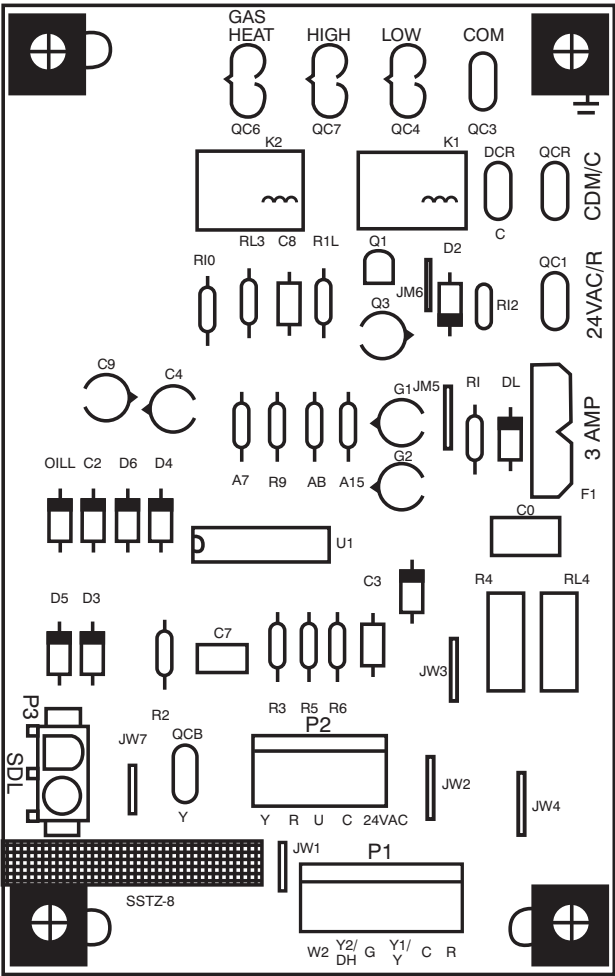

Fig. 18 - Interface Fan Board (IFB)
This unit is factory-set for use with a single cooling fan speed. For single phase models, the cooling speed is marked "COOL" on the IGC (See Fig. 17). For 3-phase models, the cooling speed is marked "LOW" on the interface board (IFB)(See Fig. 18). The factory-shipped settings are noted in Tables 10 and 11. There are up to 3 additional speed tap wires available for use in either gas heating mode, cooling mode, or continuous fan mode (For color coding on the indoor fan motor leads, see Table 8). For single phase models, one of the additional speed tap wires is connected to the continuous fan, with the other 2 wires shipped loose in the control box near the IGC. For three phase models, the additional 3 speed tap wires are shipped loose with vinyl caps and are located in the control box near the interface fan board (IFB) (See Fig. 18).
2. Remove the current speed tap wire from the “GAS HEAT” terminal on the interface fan board (IFB) (Fig.18) and place vinyl cap over the connector on the wire.
2. Remove the current speed tap wire from the “LOW” terminal on the interface fan board (IFB) (See Fig. 18) and place vinyl cap over the connector on the wire.
1. Remove fan speed tap wire from the “LOW” terminal on the interface fan board (IFB) (See Fig. 18).
When the DEHUM feature is not used, the continuous fan speed will be the same as cooling fan speed. When the DEHUM feature is used, the continuous fan will operate on IFB “LOW” speed when the DH control lead is not energized, or IFB “HIGH” speed when the DH lead is energized (see Fig. 18).